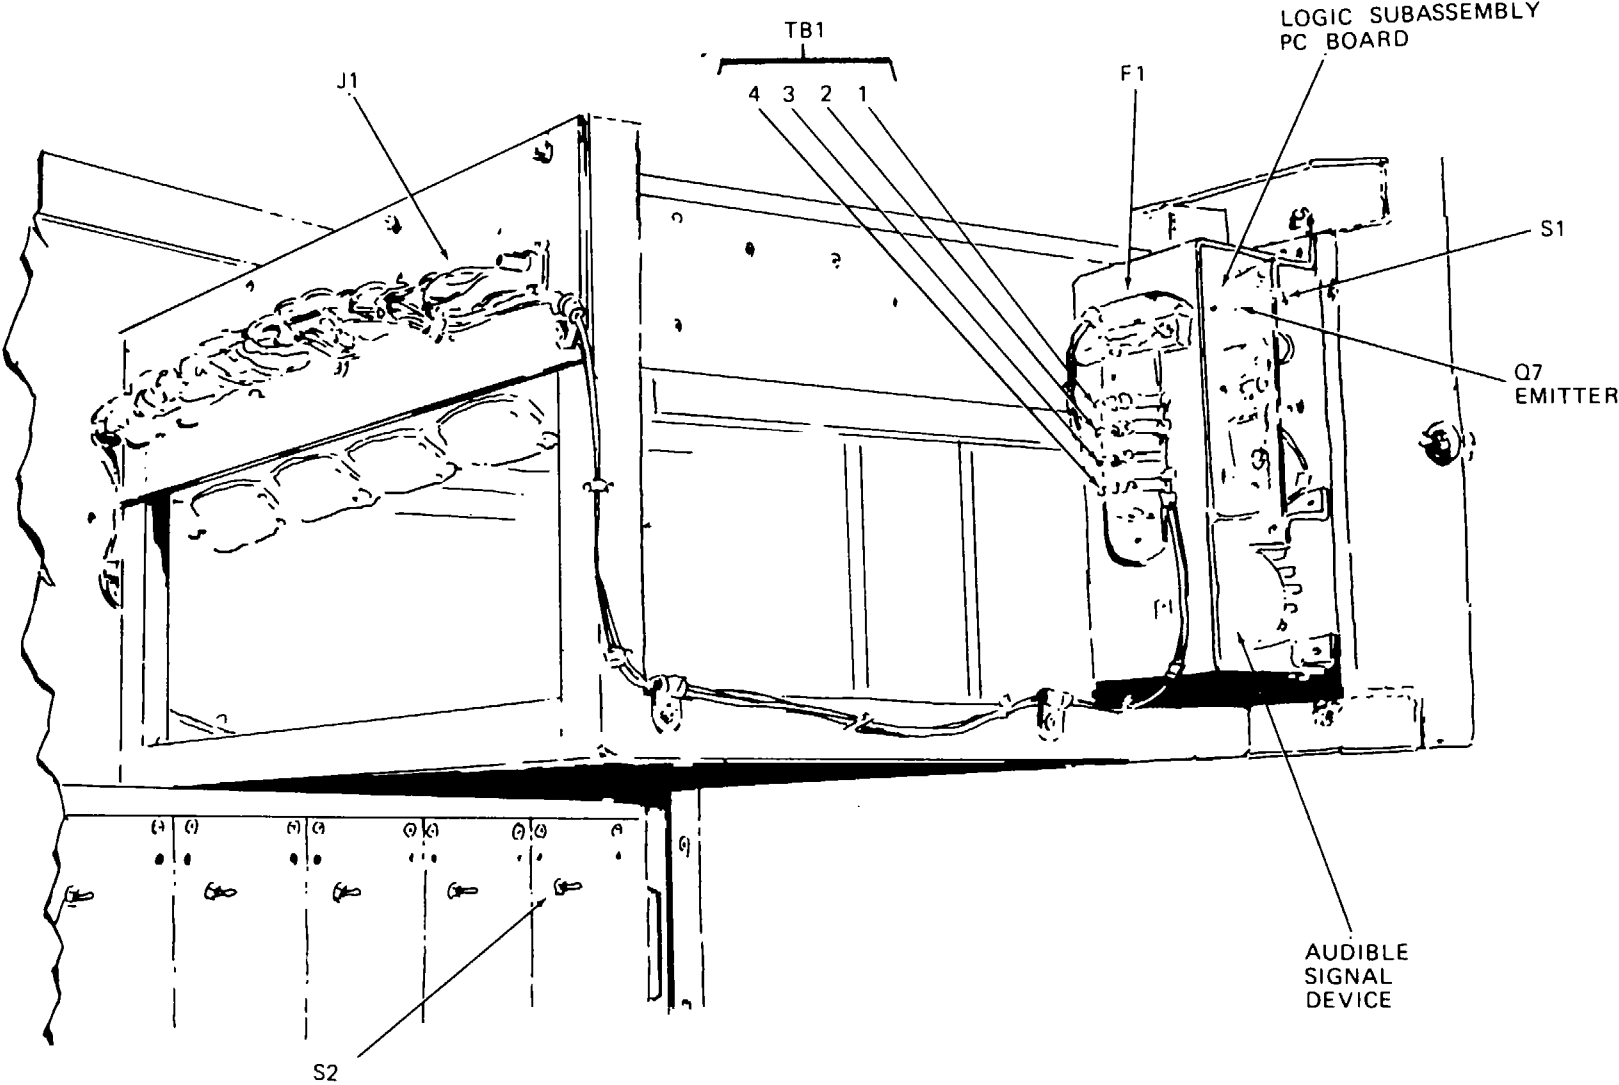
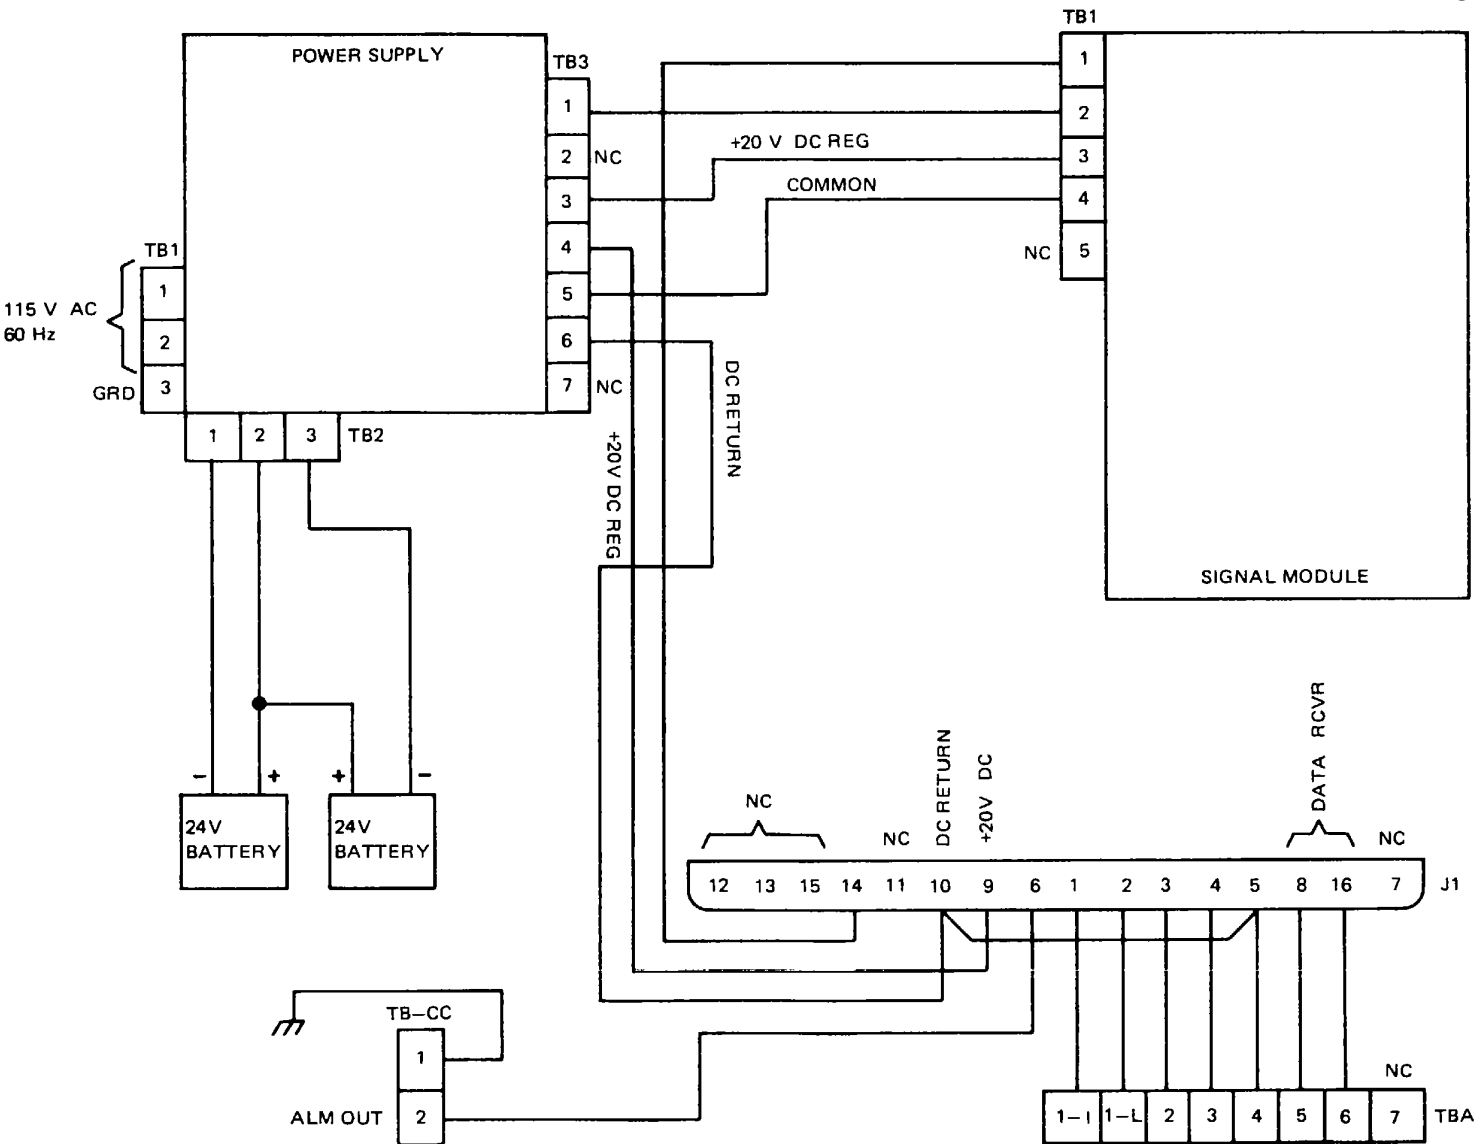

Figure 5-1. Monitor Cabinet with Troubleshooting Test Points (Typical)
Figure 5-4. One-zone Monitor Cabinet Wiring Diagram
h. Refer to figures 5-1, 5-2, and 5-3 for all test points found in troubleshooting table 5-1. Figure 5-4 is the wiring diagram for the one-zone Monitor Cabinet, and figures FO-1 and FO-2 are wiring diagrams for the five and twenty-five-zone Monitor Cabinets. Step-by-step troubleshooting procedures, including Trouble, Probable cause, and Corrective action, are listed in table 5-1.